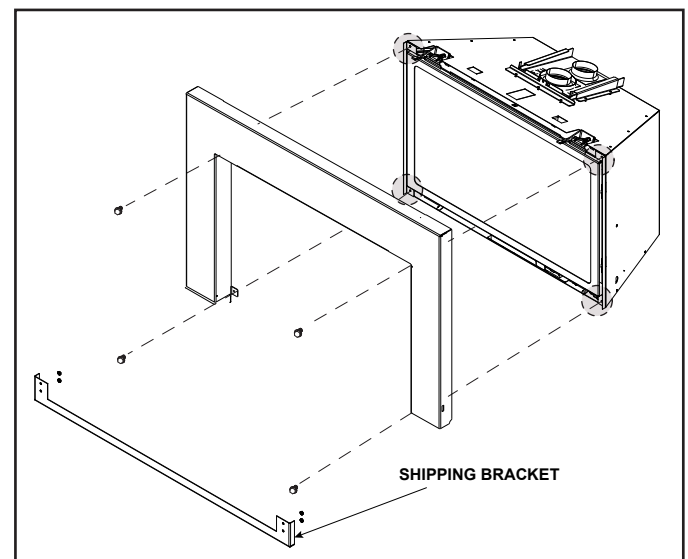

Figure 2. Attach Surround
1. Remove and discard the shipping bracket from the surround. See Figure 2.
4. Attach surround to the insert with four screws (located in appliance manual bag). See Figure 2.